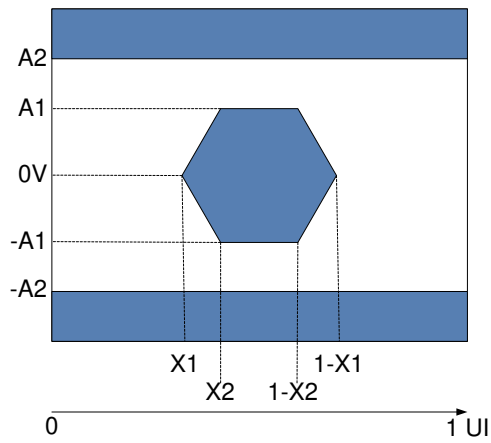

Figure 6-11. HSSI Eye Characteristics
- (1) All power supply connections are required to operate the DMD: V_{DD}, V_{DDA}, V_{OFFSET}, V_{BIAS}, and V_{RESET}. All V_{SS} connections are required to operate the DMD.
- (2) All voltage values are with respect to the ground pins (V_{SS}).
- (3) To prevent excess current, the supply voltage delta | V_{DDA} – V_{DD} | must be less than specified limit.
- (4) To prevent excess current, the supply voltage delta | V_{BIAS} – V_{OFFSET} | must be less than specified limit.
- (5) Supply power dissipation based on 3 global resets in 200 μs.
- (6) LVC MOS input specifications are for pin DMD_DEN_ARSTZ.
- (7) LVC MOS output specification is for pins LS_RDATA_A and LS_RDATA_B.
- (8) Refer to Figure 6-11, Receiver Eye Mask (1e-12 BER).
- (9) Defined in Recommended Operating Conditions.